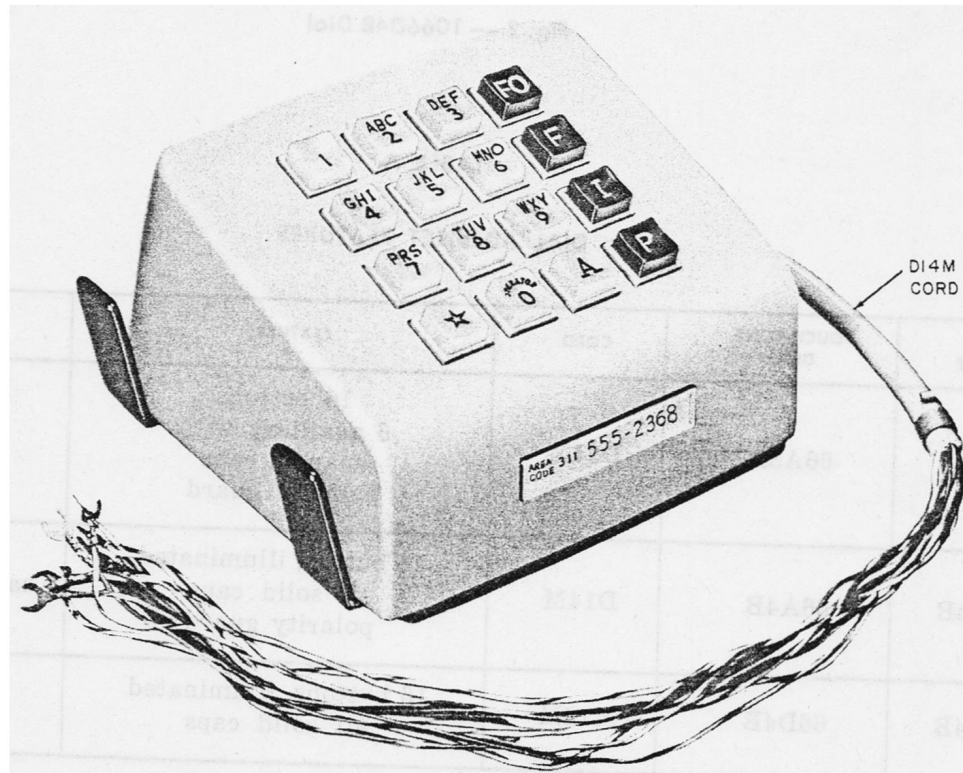

Fig. 1 — 1066A4B Dial
1.01 The 1066-type dials consist of 66-type TOUCH-TONE® dials mounted in a molded plastic housing and equipped with either 12- or 14-conductor mounting cords (Fig. 1 and 2).